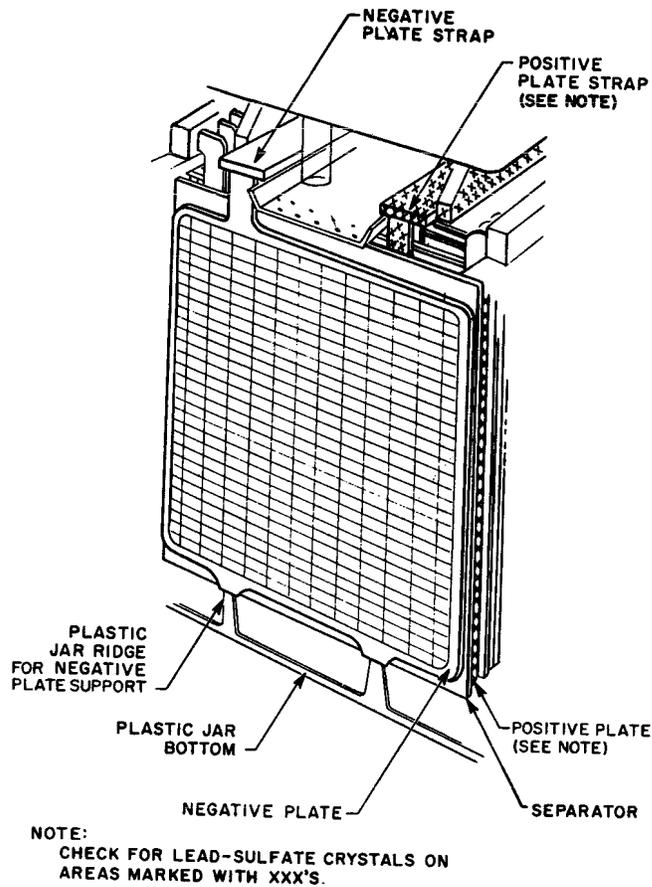

Fig. 0-1 — Schematic of Rectangular Cell Showing Possible Location of Lead-Sulfate Crystals on Positive Elements
3.03.1 **Identification of Crystals (Plastic Cases):** There should be no lead-sulfate crystals or gray coloration present on the positive plates or straps when examined with a flashlight. Normally only the positive strap will be accessible for examination. In some arrangements the edges of the positive plates will also be visible (see Fig 0.1). The visible positive elements shall be black or dark brown and totally free of any diamond-like crystals or gray coloration. The disappearance of crystals normally occurs in three distinct phases: